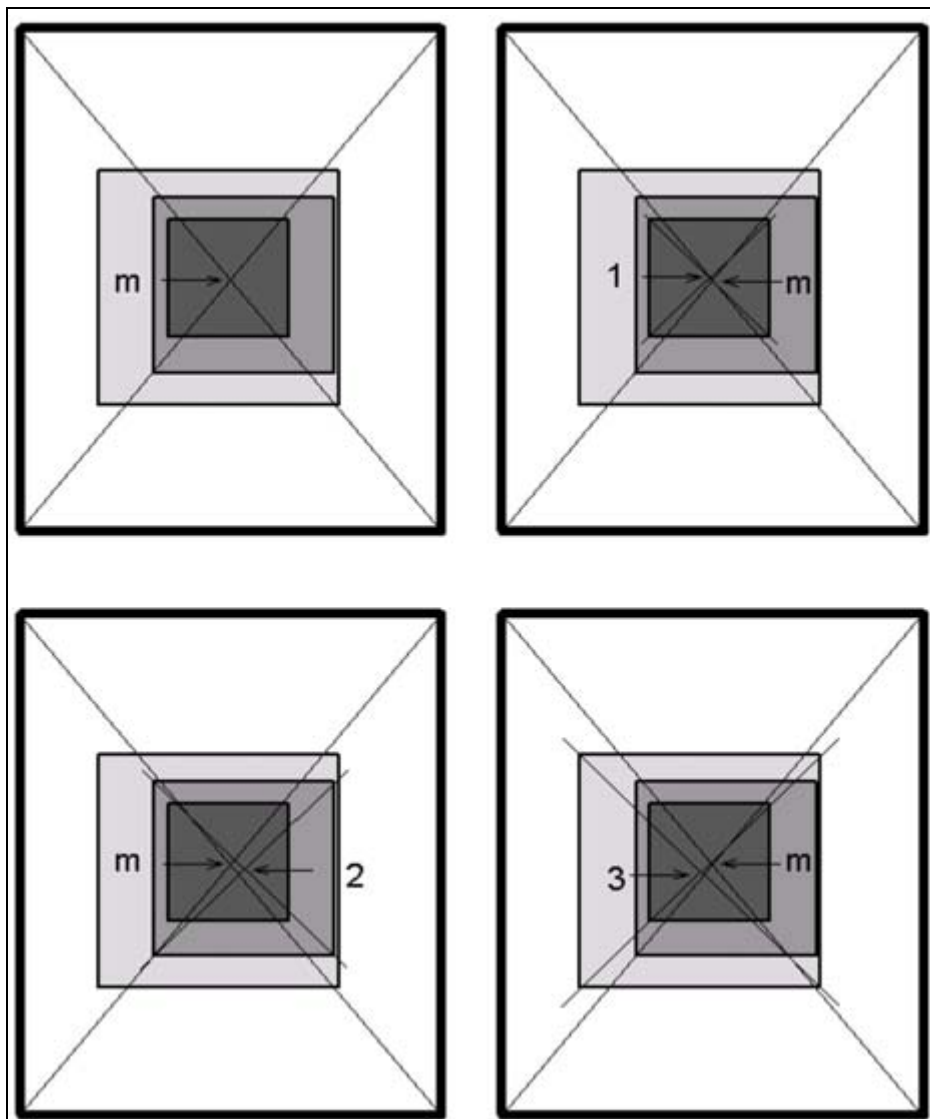

Fig. 6: Cassette central ray
- In each case, draw these diagonals on the film (Fig. 6 / p. 15):